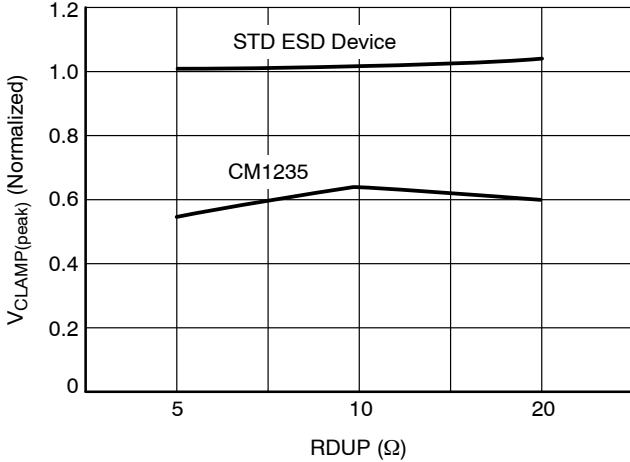
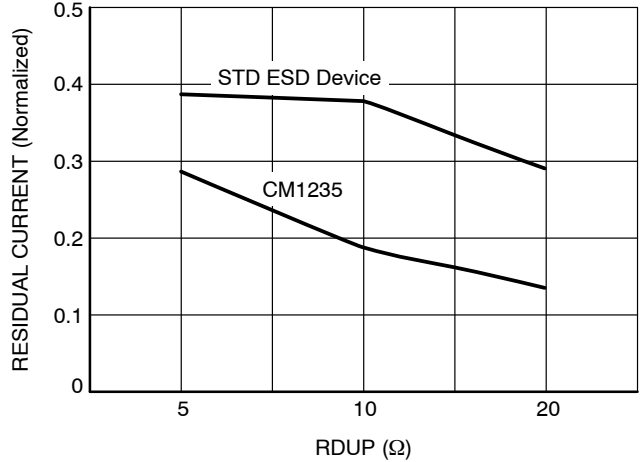
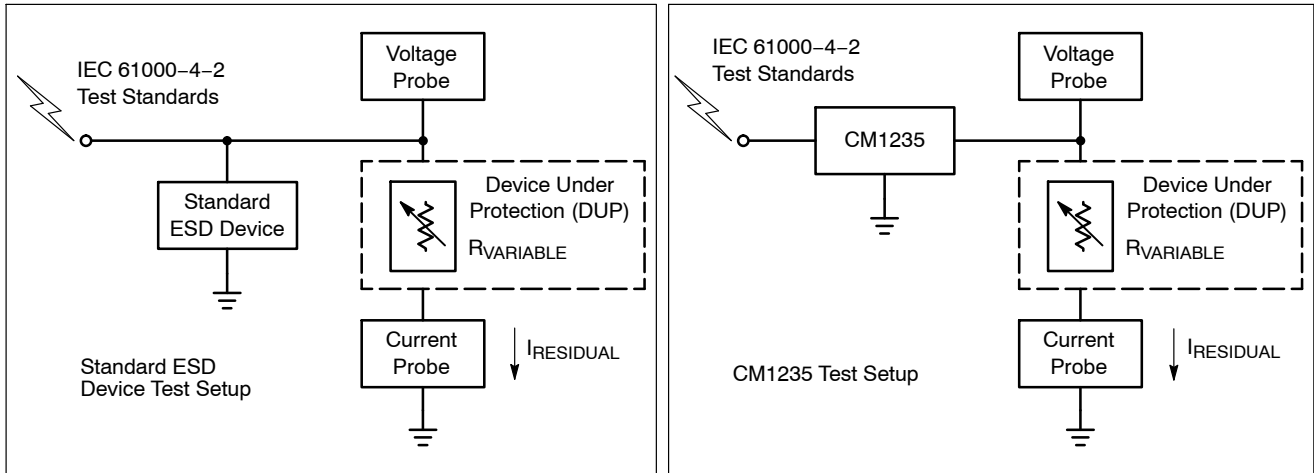

Figure 5. Normalized VPeak (8 KV IEC-61000 4-2 ESD Contract Strike) vs. Loading (RDUP)*
Figure 6. Normalized Residual Current into DUP vs. RDUP*
Figure 7. Test Setups: Standard Device (Left) and CM1235 (Right)
1. Impedance values for deviation from continuous 100 Ω uncompensated differential microstrip, with typical layout as measured. See Figure 7.
Figure 5 shows that the CM1235 (*PicoGuard XS* ESD protector) lowers the peak voltage and clamping voltage by 45% across a wide range of loading conditions in comparison to a standard ESD protection device. Figure 6 also indicates that the DUP/ASIC protected by the CM1235 dissipates less energy than a standard ESD protection device. This data was derived using the test setups shown in Figure 7.